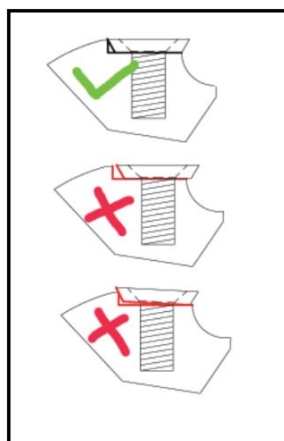

Fig 18
- 6 Visually inspect and ensure that the insert is in place and that there is no gap between the insert and the shaft body (Fig 18).